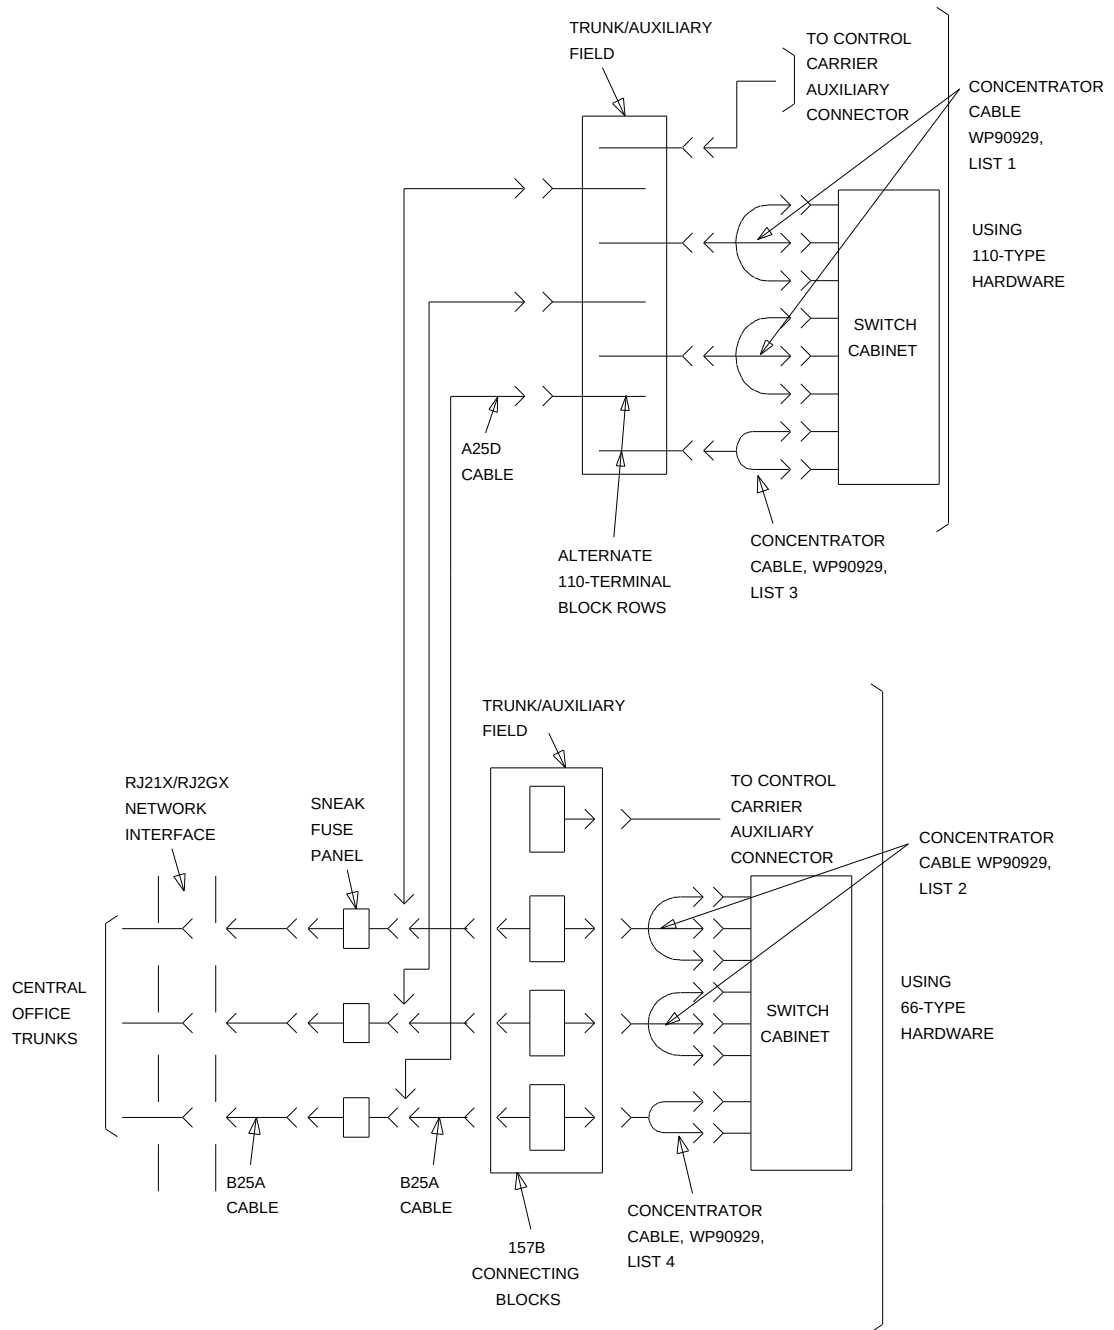

Figure 9-50. Connecting Trunk Pairs Used for 1-Pair Trunk Circuits; DID, Loop Start, Ground Start Using Concentrator Cables
Figure 9-50 shows trunk pairs connected to the switch cabinet with concentrator cables. To install the cables, proceed as follows:
1. Connect B25A connector cables between the network interface and the sneak fuse panels (Figure 9-50).
2. Connect A25D/B25A connector cables from the sneak fuse panels to the 110-type terminal block/66-type connecting block connectors in the green field (Figure 9-50).